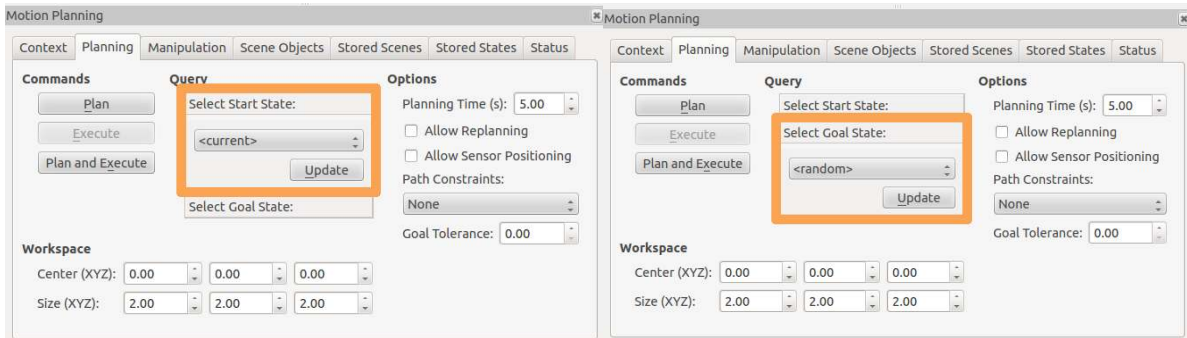

Figure 80: Tab to set start state (left) and tab to set goal state (right).
1. In order to use motion planning, a Start State and Goal State has to be known, to do this with the *MoveIt!* GUI navigate to the tab called “Planning” in the display called MotionPlanning. On this tab, further nested tabs provide the functionality required to update Start State and Goal State depicted in Figure 80.